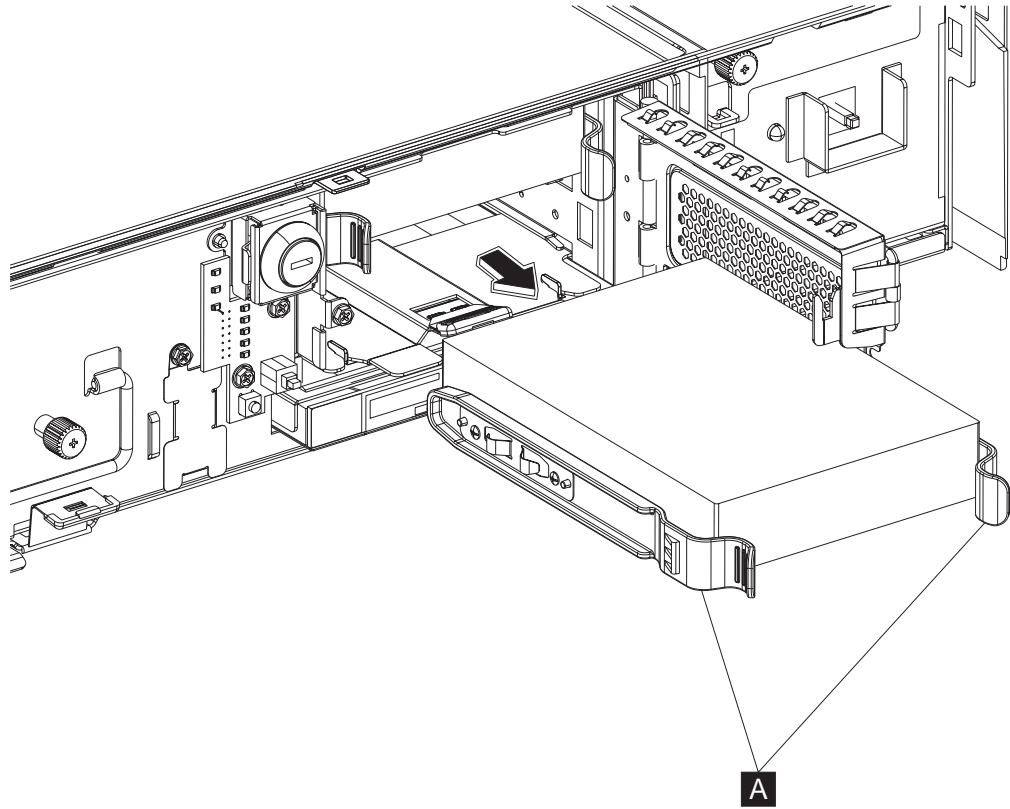

Figure 22. Removing a hard disk drive
2. Squeeze the two blue drive rail lock tabs ( **A** in Figure 22) inward and pull to remove the hard disk drive on its rails.